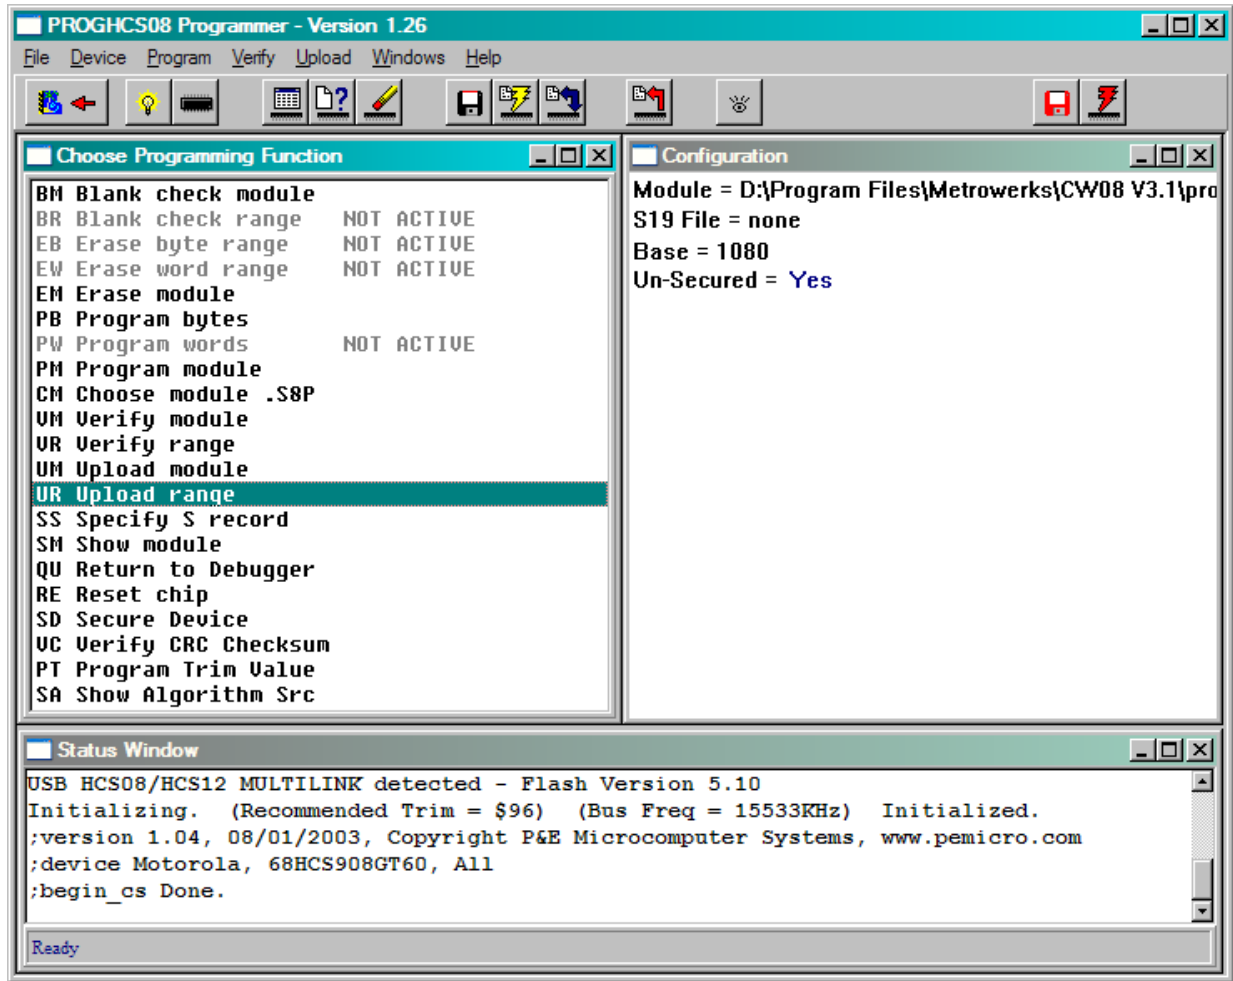

Figure 3-12. Programmer Expert Window
- Select the PEDebug menu and then choose Start Expert Mode Programmer. The Programmer Expert window appears as shown in Figure 3-12.